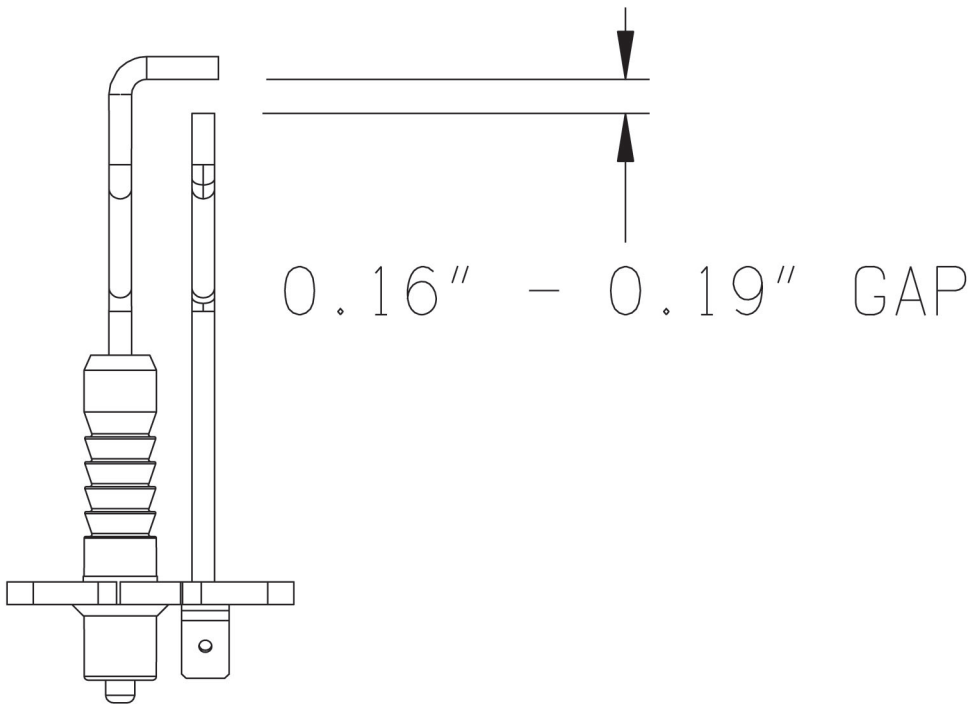

Figure 14.2: Ignition Electrode Gap
- n. **Inspect the ignition electrode and flame rod** for deposits. Clean any found with steel wool. Do not use sand paper or Emory cloth for this cleaning. Inspect the ceramic portion of both of these parts for cracks and replace if any are found. Verify that the ignition electrode gap is within the range shown in Figure 14.2.